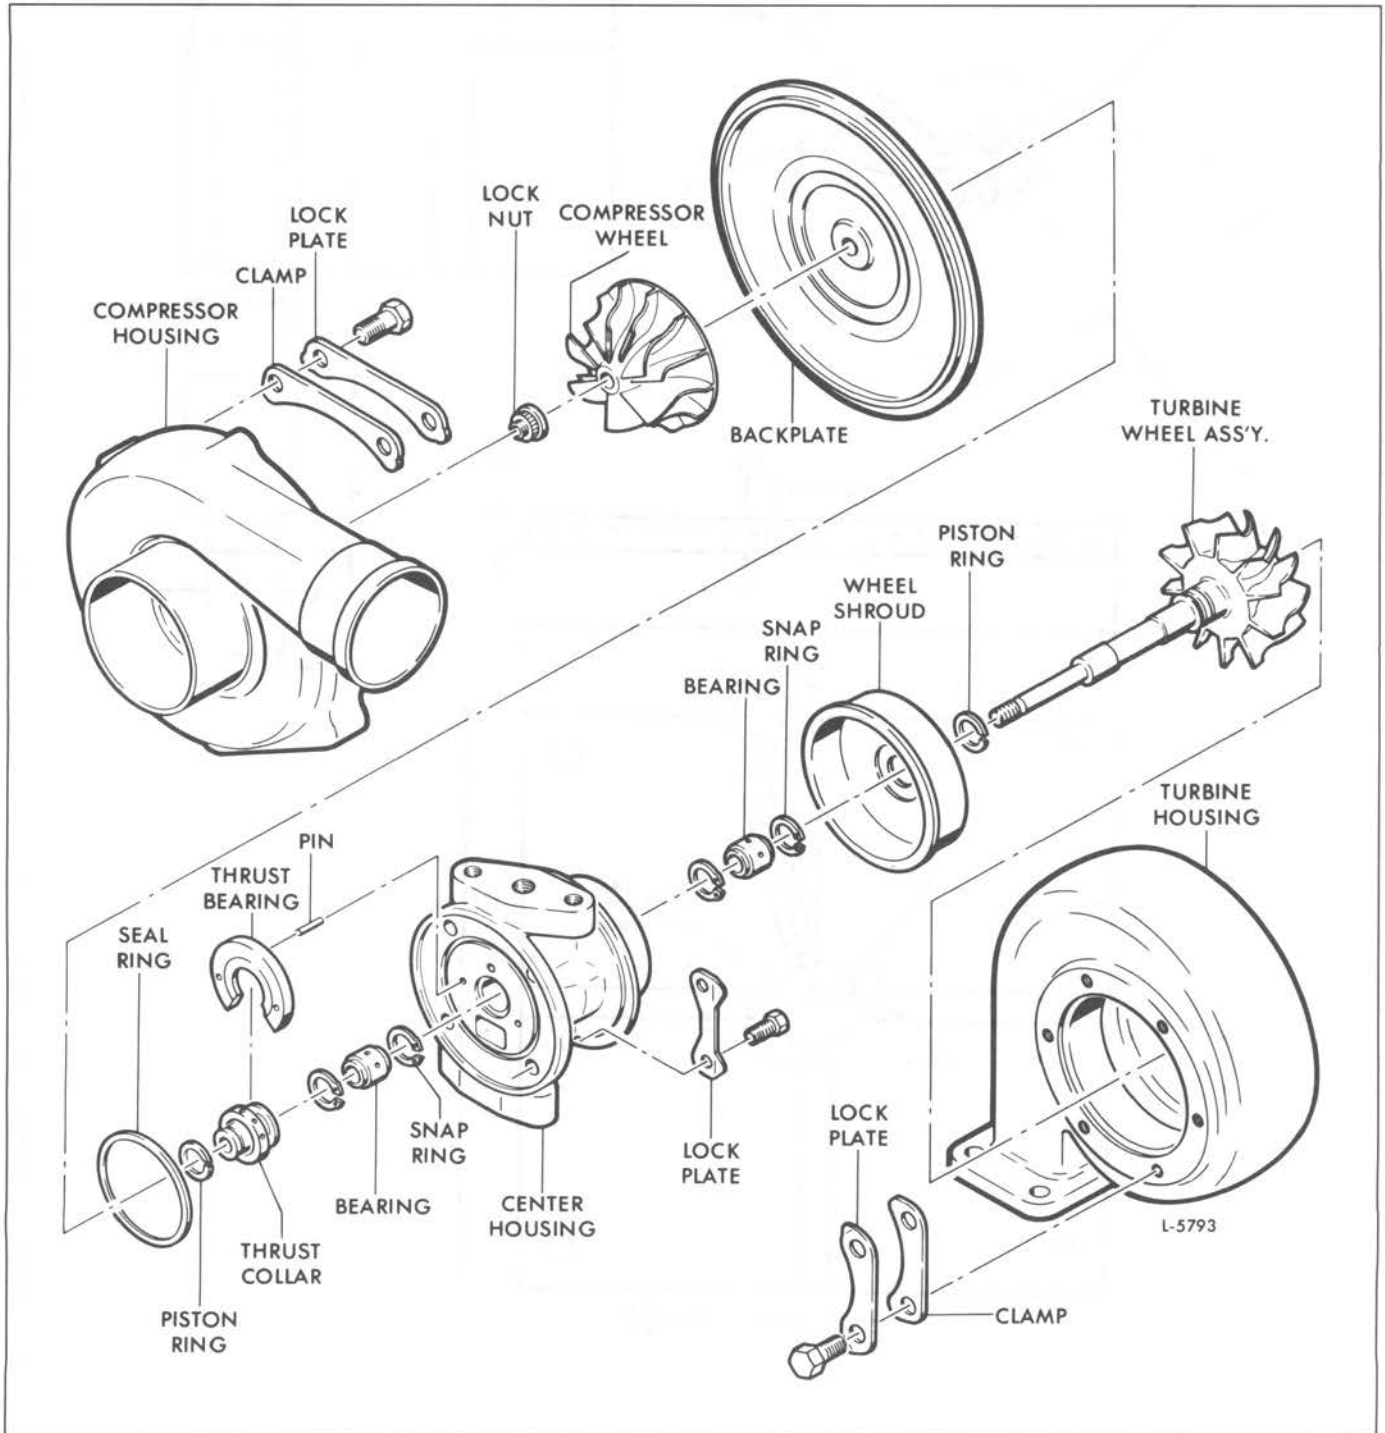

Fig. 9 – T04B Turbocharger Details and Relative Location of Parts
1. Refer to Fig. 7 or 8 and loosen the "V" band coupling (1) securing the compressor housing (2) to the backplate assembly (14) and remove the compressor housing and "V" band. Refer to Fig. 9 and remove the bolts and lockplates securing the compressor housing to the backplate assembly and remove the compressor housing.
2. With the T18A40, T18A90 and T04B turbochargers, bend down the ends of the lockplates (4) and remove the eight bolts (3) securing the four lockplates and turbine housing clamps (5) to the center housing (27) and turbine housing (6). With the TV71 and TV81 turbocharger, loosen the "V" band coupling (28) securing the turbine housing (6) to the center housing (27). Remove the turbine housing from the center housing.
Refer to Fig. 9 for parts orientation and proceed as follows: